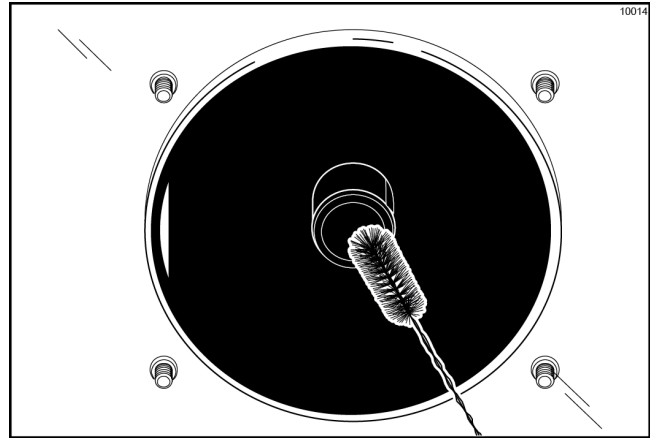

Figure-108
- Return to the freezer with a small amount of cleaning solution. Using the black brush, clean the rear shell bearings at the back of the freezing cylinders. (See Figure-108.)